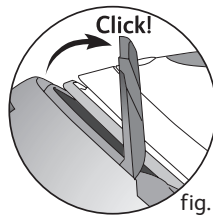

fig. 2
- Locking - **fig.2**
- Place the iron on the iron rest of the generator and raise the retaining hoop over the iron until it locks into place (audible click) - **fig.2**